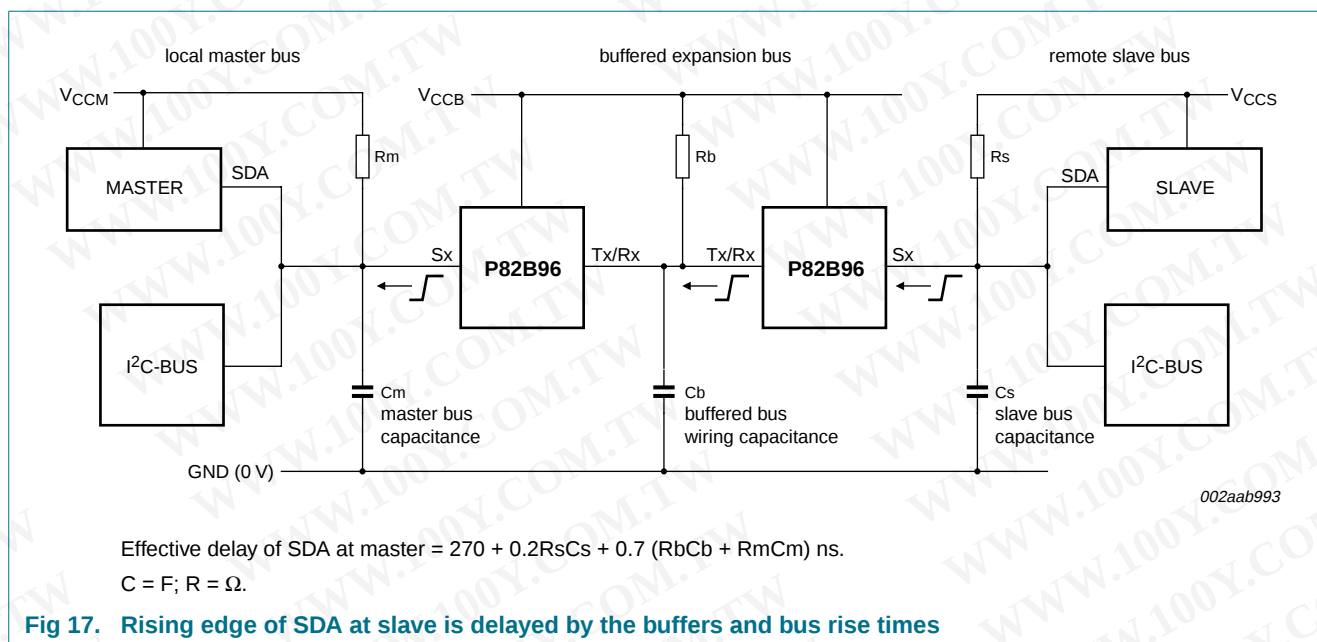

Fig 17. Rising edge of SDA at slave is delayed by the buffers and bus rise times
Figure 15, Figure 16, and Figure 17 show the P82B96 used to drive extended bus wiring, with relatively large capacitance, linking two Fast mode I²C-bus nodes. It includes simplified expressions for making the relevant timing calculations for 3.3 V or 5 V operation. Because the buffers and the wiring introduce timing delays, it may be necessary to decrease the nominal SCL frequency below 400 kHz. In most cases the actual bus frequency will be lower than the nominal Master timing due to bit-wise stretching of the clock periods.
- C** — The propagation delay of the slave's response signal through the buffers and wiring back to the master. The important delay is that of a rising edge in the SDA signal. Rising edges are always slower and are therefore delayed by a longer time than falling edges. (The rising edges are limited by the passive pull-up while falling edges are actively driven). See Figure 17.
edge from the master reaching the slave (Figure 15) minus the effective delay (stretch) of the SCL rising edge (Figure 16) plus total delays in the slave's response data, carried on SDA, reaching the master (Figure 17).